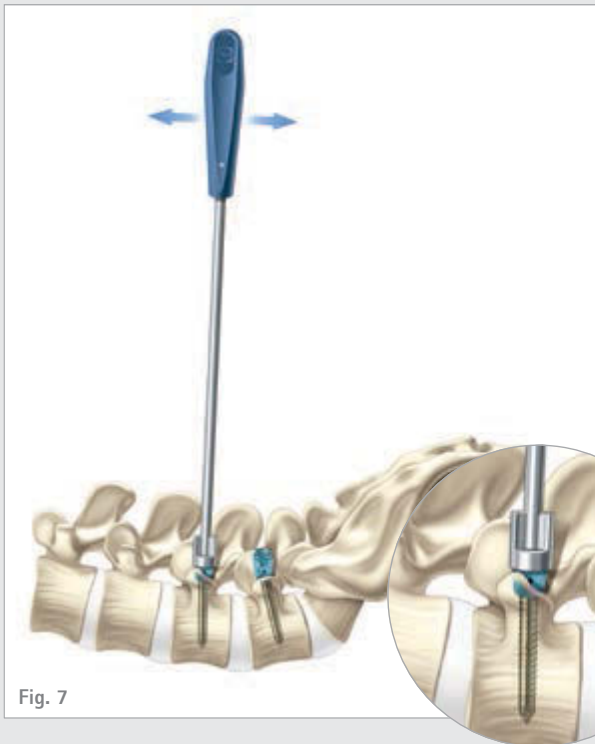

Fig. 7
- All polyaxial screw heads have 42° range of motion. If desired, align the polyaxial screw bodies using the Screw Body Manipulator (FW278R). (Fig. 7)